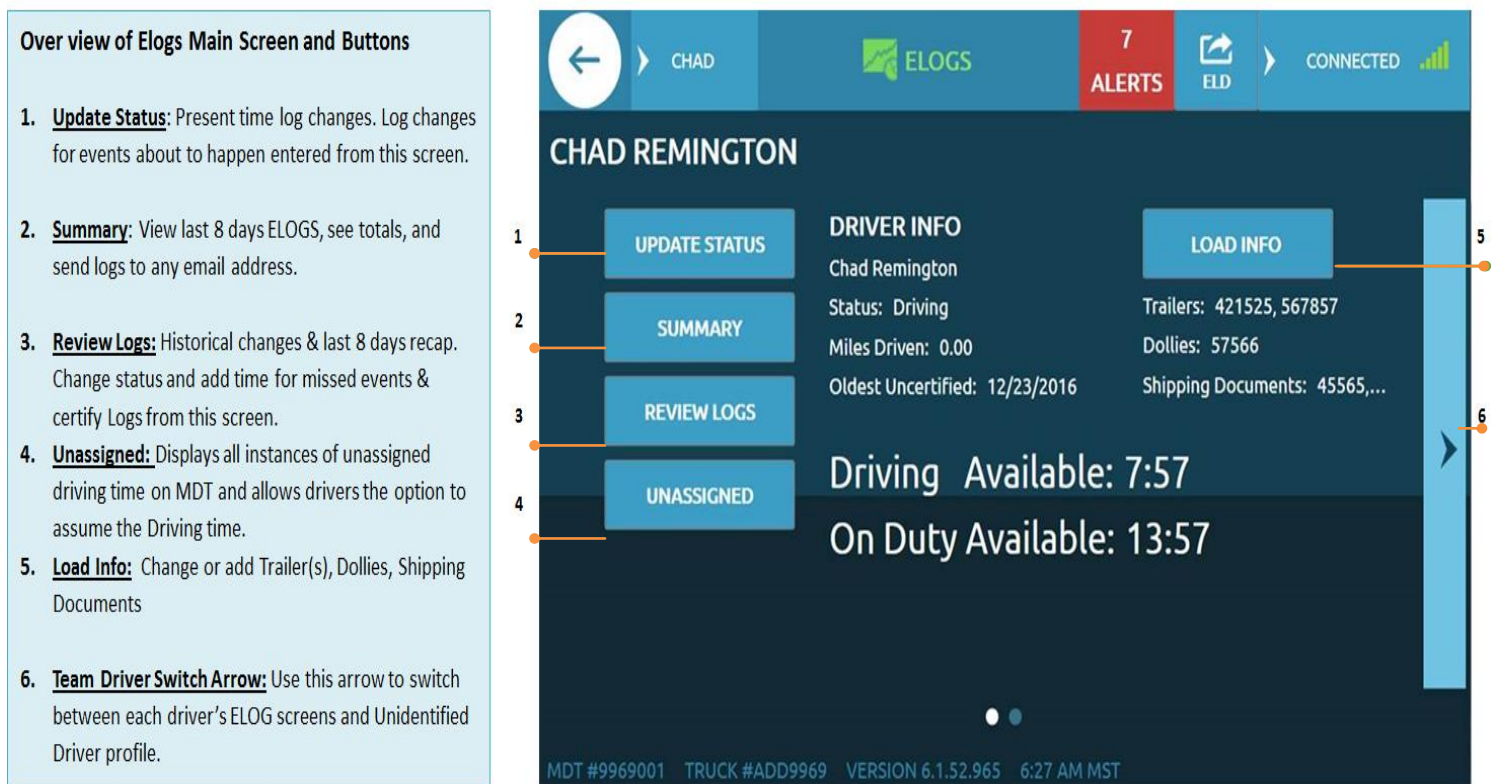

Figure 4.1
Below in Figure 4.1 is an overview of the Elogs Main Screen and the buttons that can be used to navigate to other areas within Elogs.
The Update Status screen is accessed by pressing the Update Status button displayed in Figure 4.1 above. On this screen the driver will have the ability to Change their Duty status and apply annotations or exceptions. The Start Date and Start Time will be automatically set to the current date and time of the Drivers home terminal.
- Touch Update Status Button (Figure 4.1) on the Main Elogs Screen
Press Review Logs (figure 4.1). The screen displays the driver's current log graph and the past 7 days log graphs. From this screen the driver is able to access features: Daily Header, Event List, New Status and Certify. You may edit a previous duty status or certify your previous day's logs. The Event List and Daily Header provide details for a specific day(s) logs, the CMV that was operated, the Driver, and the ELD. The log graph displays individual duty status boxes that correspond to the graph.
- To review the unassigned Driving time press the Unassigned button in (Fig 4.1)
The load Info button shown in Fig. 4.1 provides the driver with the ability to edit their current Trailer, Dollies or Shipping Document information. After pressing Load Info, the driver has the option of being able to select the type of configuration they are operating. Please note that for Straight Trucks and bobtail configurations please select the Truck and Single Trailer image.
- Touch Load Info (Fig. 4.1) on the ELOGS Main Screen